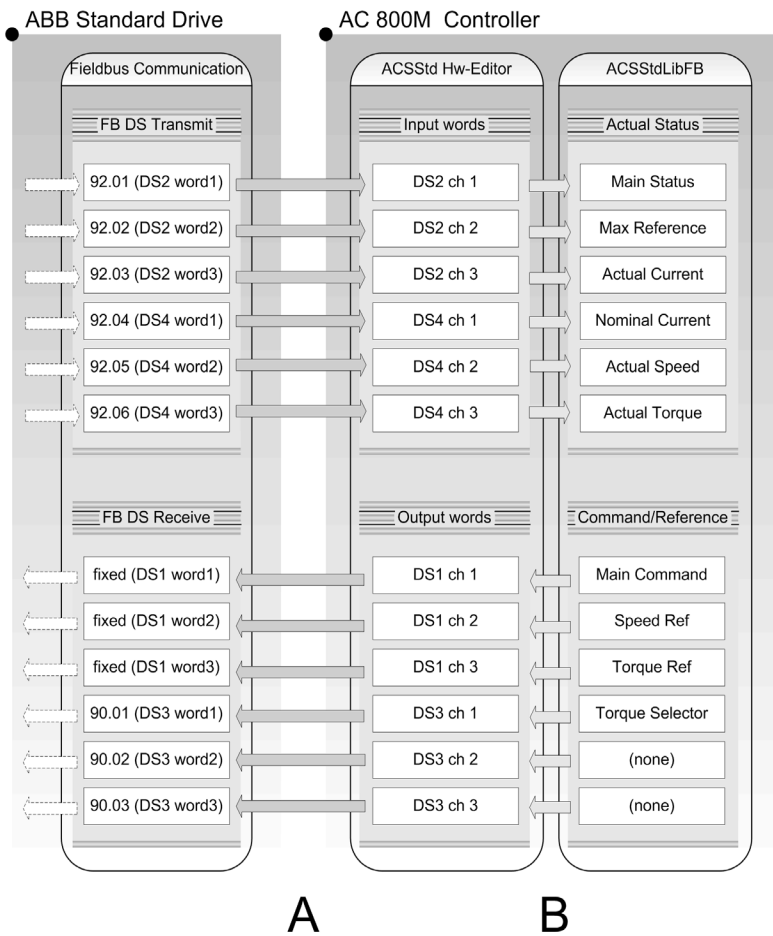
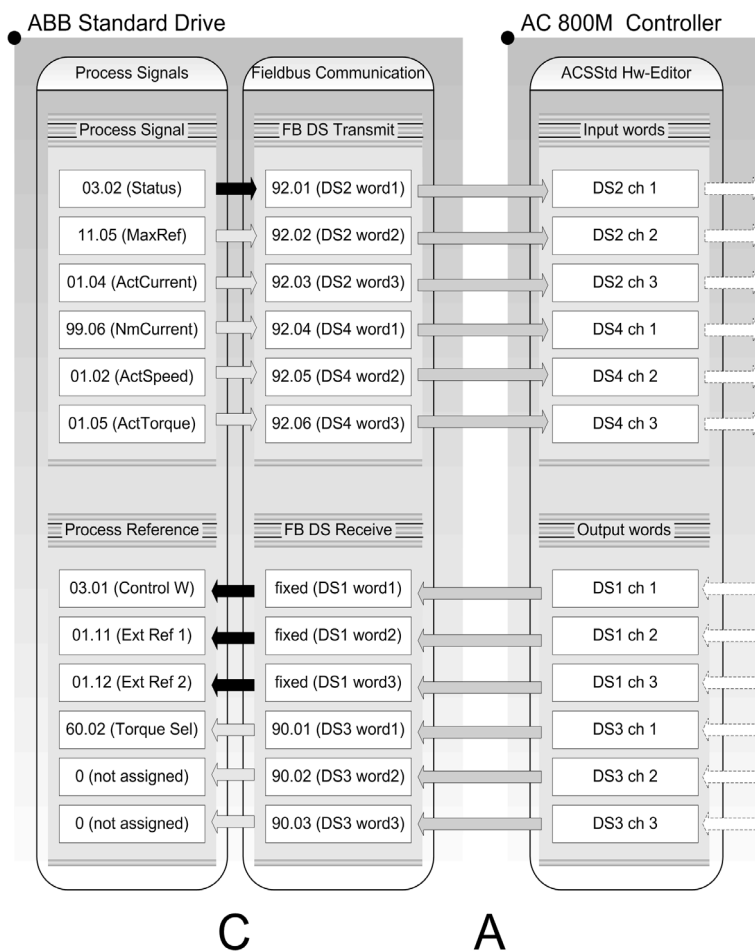

Figure 144. Overview of the connections between an ABB Standard Drive and an AC 800M Controller, part A-B
Figure 145. Overview of the connections between ABB Drive and AC 800M Controller, part C-A (black arrow = fixed connection)
Figure 144 and Figure 145 shows communication between an AC 800M Controller and an ABB Standard Drive.
- a. Establish the communication channels (part A in Figure 144 and Figure 145).
- b. Define the data to be sent and received in AC 800M Controller (part B in Figure 144).
In AC 800M, this is done by making variable connections between the ACStdDrive function block and the Hardware Editor of the applied communication interface, using variable connections. The most important thing is that the required process data on the Drive side must be connected on the same communication channel used by the corresponding data in ACStdDrive function block. For example, in Figure 144, Actual Speed in ACStdDrive function block must be connected to DS4 ch 2, so that the parameter can get the correct information.
- c. Define the data to be sent and received in the ABB Standard Drive (part C in Figure 145).
For example, define the connection between parameter index 01.02 (ActSpeed) with parameter index 92.05 (DS4 word 2) in ABB Standard Drive. How to connect those parameter indexes in the Drive is described in ABB Drives documentation. A black arrow in Figure 145 indicates a fixed connection that is not configurable.